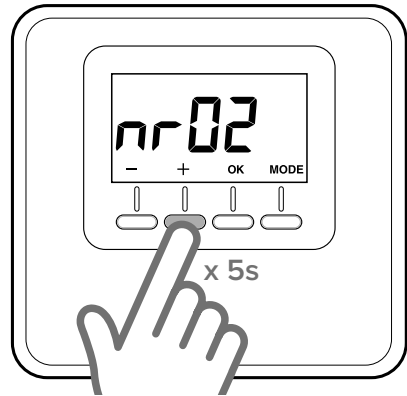

Fig. 15
- Hold the “+” key on the room sensor down for 5 seconds. The display will show the parameter “nr02” (Fig. 15).